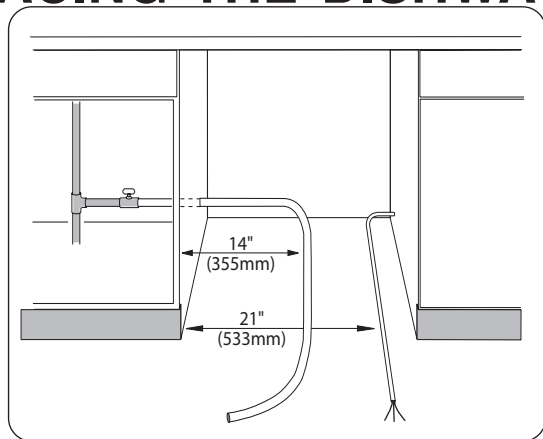

Figure 16
1. Straighten and position the hot water supply line and the electrical supply cable as shown in Figure 16 so that they will align with their channels under the dishwasher base.